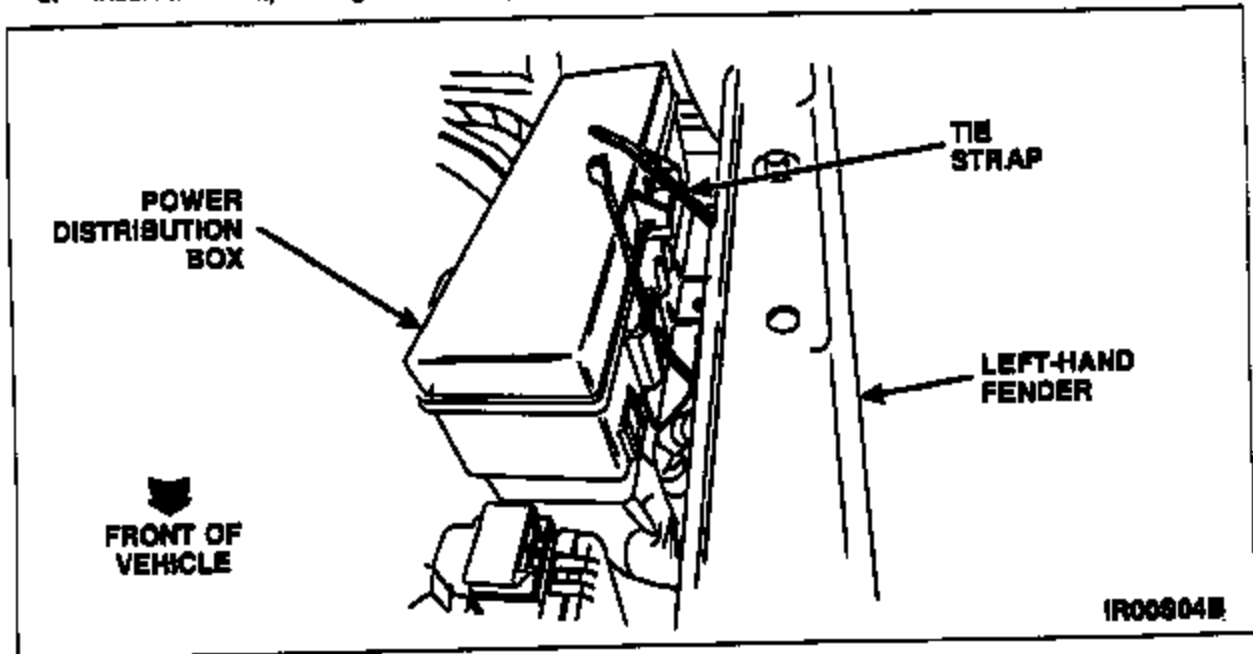

FIGURE 2
3. Insert a tie strap through the locking tab on the power distribution box. See Figure 2.